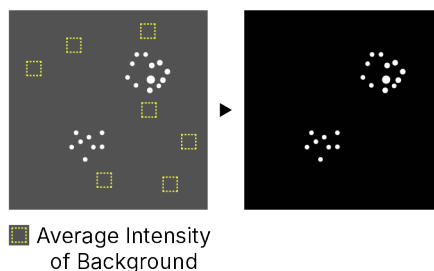

Figure 2. Average Background Intensity measurement and background subtraction.
- a. Select representative regions on slides containing no positive RNAscope staining, or on slides stained with only negative control probe. Measure the Integrate Intensity (Total Intensity) of the selected background regions. The selected regions should represent the true background. For example, when measuring staining in tissues with autofluorescence select regions containing autofluorescent tissues (Figure 2).
- c. (OPTIONAL) Subtract background: Use the software to subtract background or autofluorescence (Figure 2).